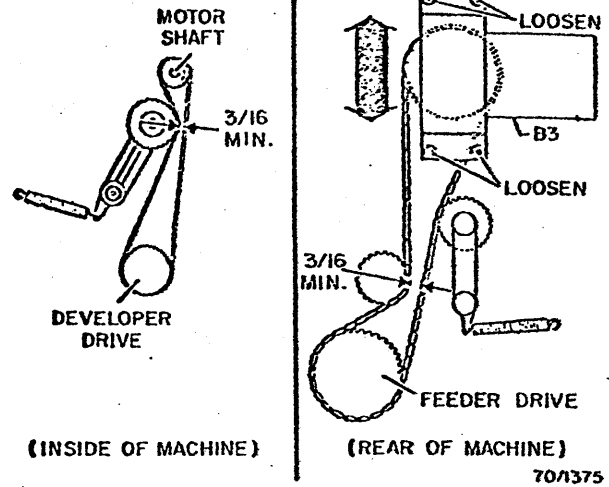

Fig. 3-12. Developer/Paper Feeder Drive Motor Adjustment
1. Check for a minimum of 3/16-inch clearance between the closest points of each chain (Fig. 3-12).